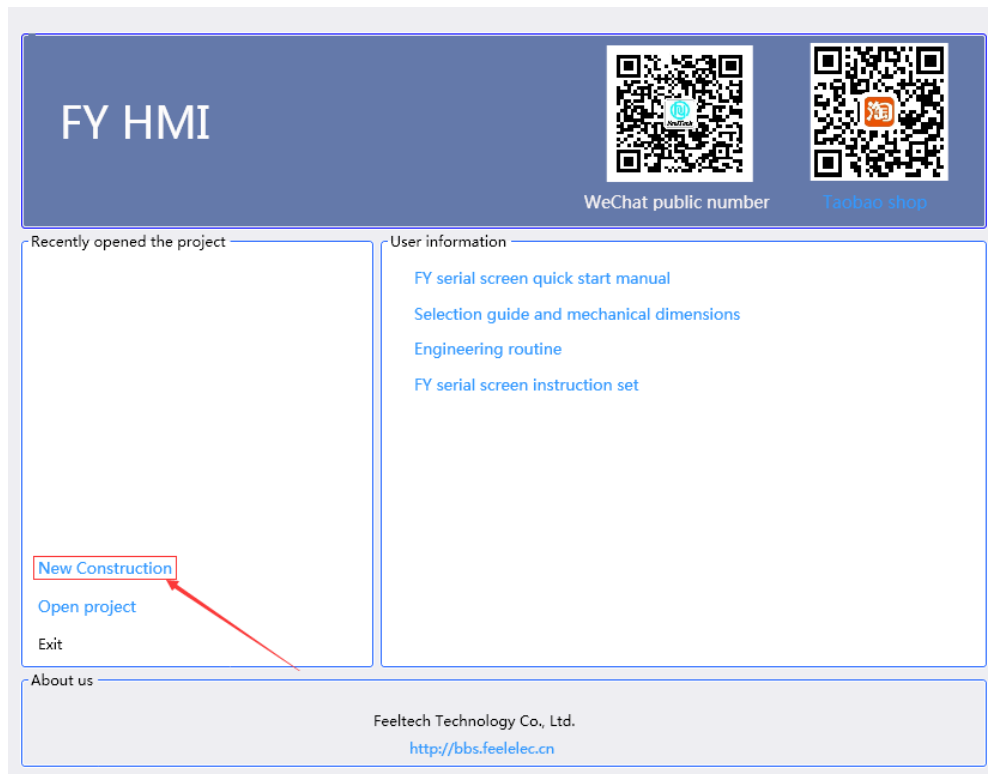

Figure 4-4
- 1) First step new project: Click "New Project" on the start interface, as shown in Figure 4-4, select the storage path and name for the project; if the project has been opened to enter the main interface, you can select "File" from the toolbar. "->" "New" way to create a new project.